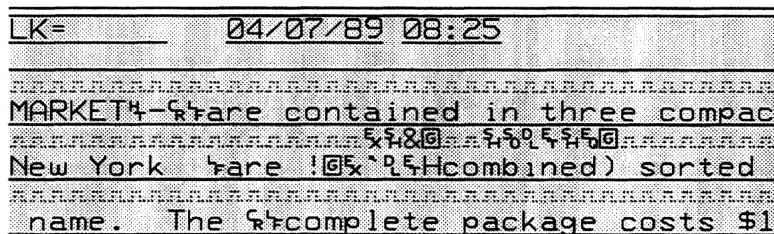

Figure 6-8 Dual-line display.
In dual-line display (Figure 6-8), DTE (TD) data begins on the first data line. DCE (RD) data (always underlined) is shown on alternating lines beginning with the second data line. When one of the data leads is idle, time correlation with the other lead is maintained by this time-fill symbol: :. See Figure 6-8.